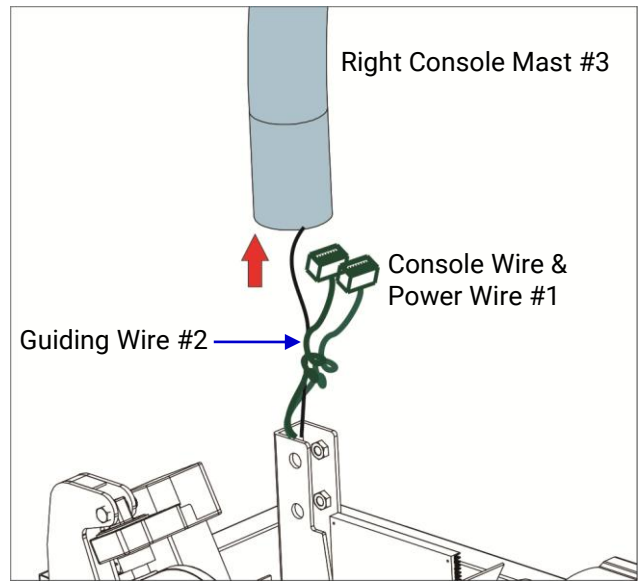

Fig 2.5-2A
- 1) Thread the **Console Wire & Power Wire #1** on the **Guiding Wire #2** and through the **Right Console Mast #3**. (Fig2.5-2A)